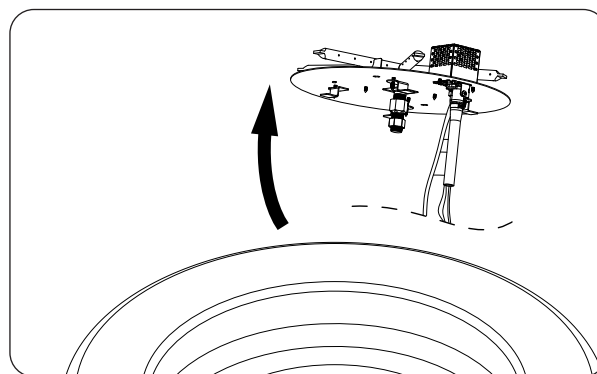

Fig. 28-3 Remove burner
3. Carefully remove the burner and set it off to the side (see Fig 28-3).